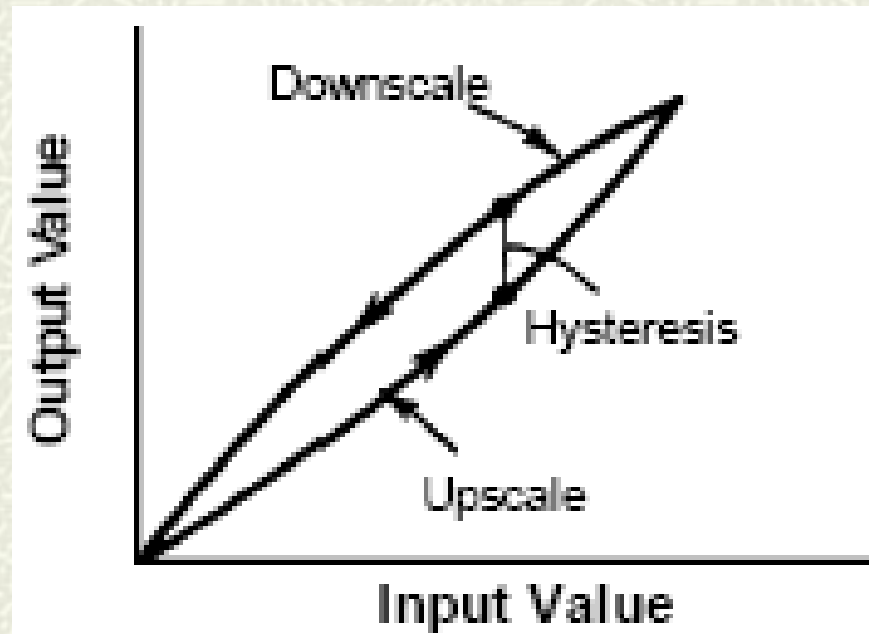

Figure 2.2
- # The effect of hysteresis in a sequence calibration curve is illustrated in figure 2.2